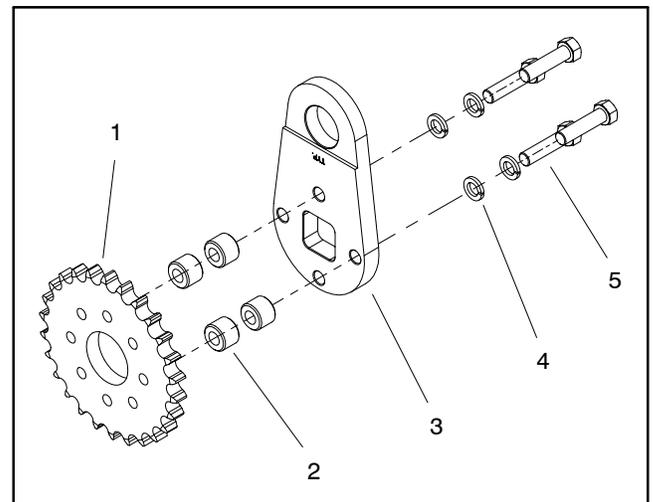

Figure 12
- C. Remove the hex nut (item 5) that secures one of the crank arms (item 6 or 13) to crank shaft (item 11).
- E. If sprocket is attached to removed crank arm, remove sprocket if necessary (Fig. 12).
- F. Loosen set screws (item 15) that secure bearing to crank shaft.
- I. If removal of the second crank arm is necessary, make sure that alignment of crank arm to crank shaft is noted and then remove hex nut (item 5) and second crank arm from crank shaft.
7. If necessary, remove and discard spring pins (item 14).
2. If spring pins (item 14) were removed from frame, drive new spring pins into aerator frame holes.
A. If a removed crank arm included a drive sprocket, install sprocket if it was removed (Fig. 12).
B. If both crank arms were removed from crank shaft, use notes made during disassembly to properly orientate one of the crank arms (items 6 or 13) and slide onto crank shaft. Install hex nut onto crank shaft threads to secure crank arm to crank shaft.
C. Apply antiseize lubricant liberally to crank shaft (item 11). Noting orientation of crank shaft grooves from disassembly, slide crank shaft with attached crank arm into bearing housing. Do not tighten bearing set screws (item 15) at this time.
D. Using notes made during disassembly, properly orientate second crank arm (items 6 or 13) and slide onto crank shaft. Install hex nut onto crank shaft threads to secure crank arm to crank shaft.
4. Position bearing housing assembly (with crank arms attached) to spring pins on aerator frame. Install two (2) cap screws and lock nuts to secure bearing housing assembly to coring head frame.
6. Rotate coring crankshaft to allow access to hex nuts (item 5) that secure crank arms and connecting rods on both sides of crankshaft bearing housing.
7. Insert block of wood between aerator frame and connecting rod to prevent the crankshaft from turning. Torque hex nuts (item 5) that secure crank arms and connecting rods on both sides of crankshaft bearing housing to **950 ft-lb (1288 N-m)**.
8. Tighten set screws (item 15) to secure ball bearing flange to crank shaft.